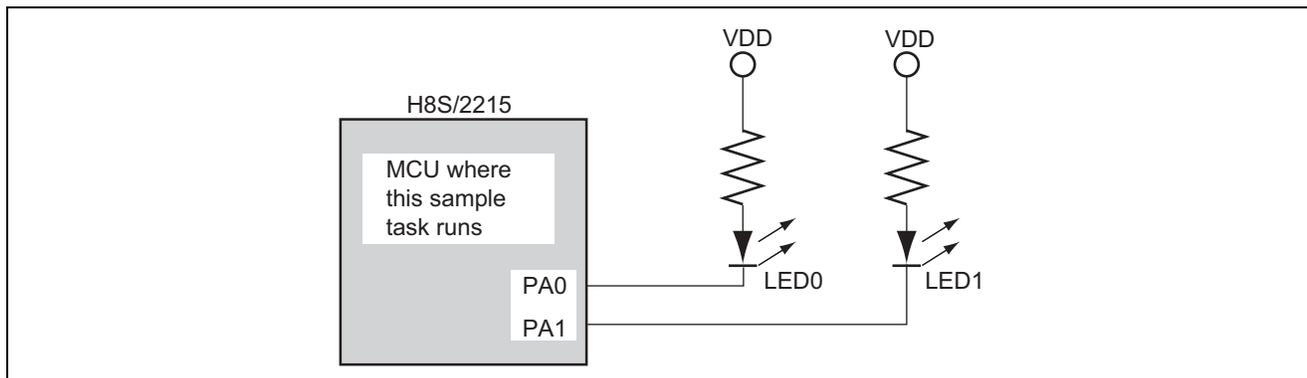

Figure 1 Blinking of LEDs Connected to I/O Ports
1. As shown in figure 1, the two LEDs connected to the I/O ports are alternately turned on and off.